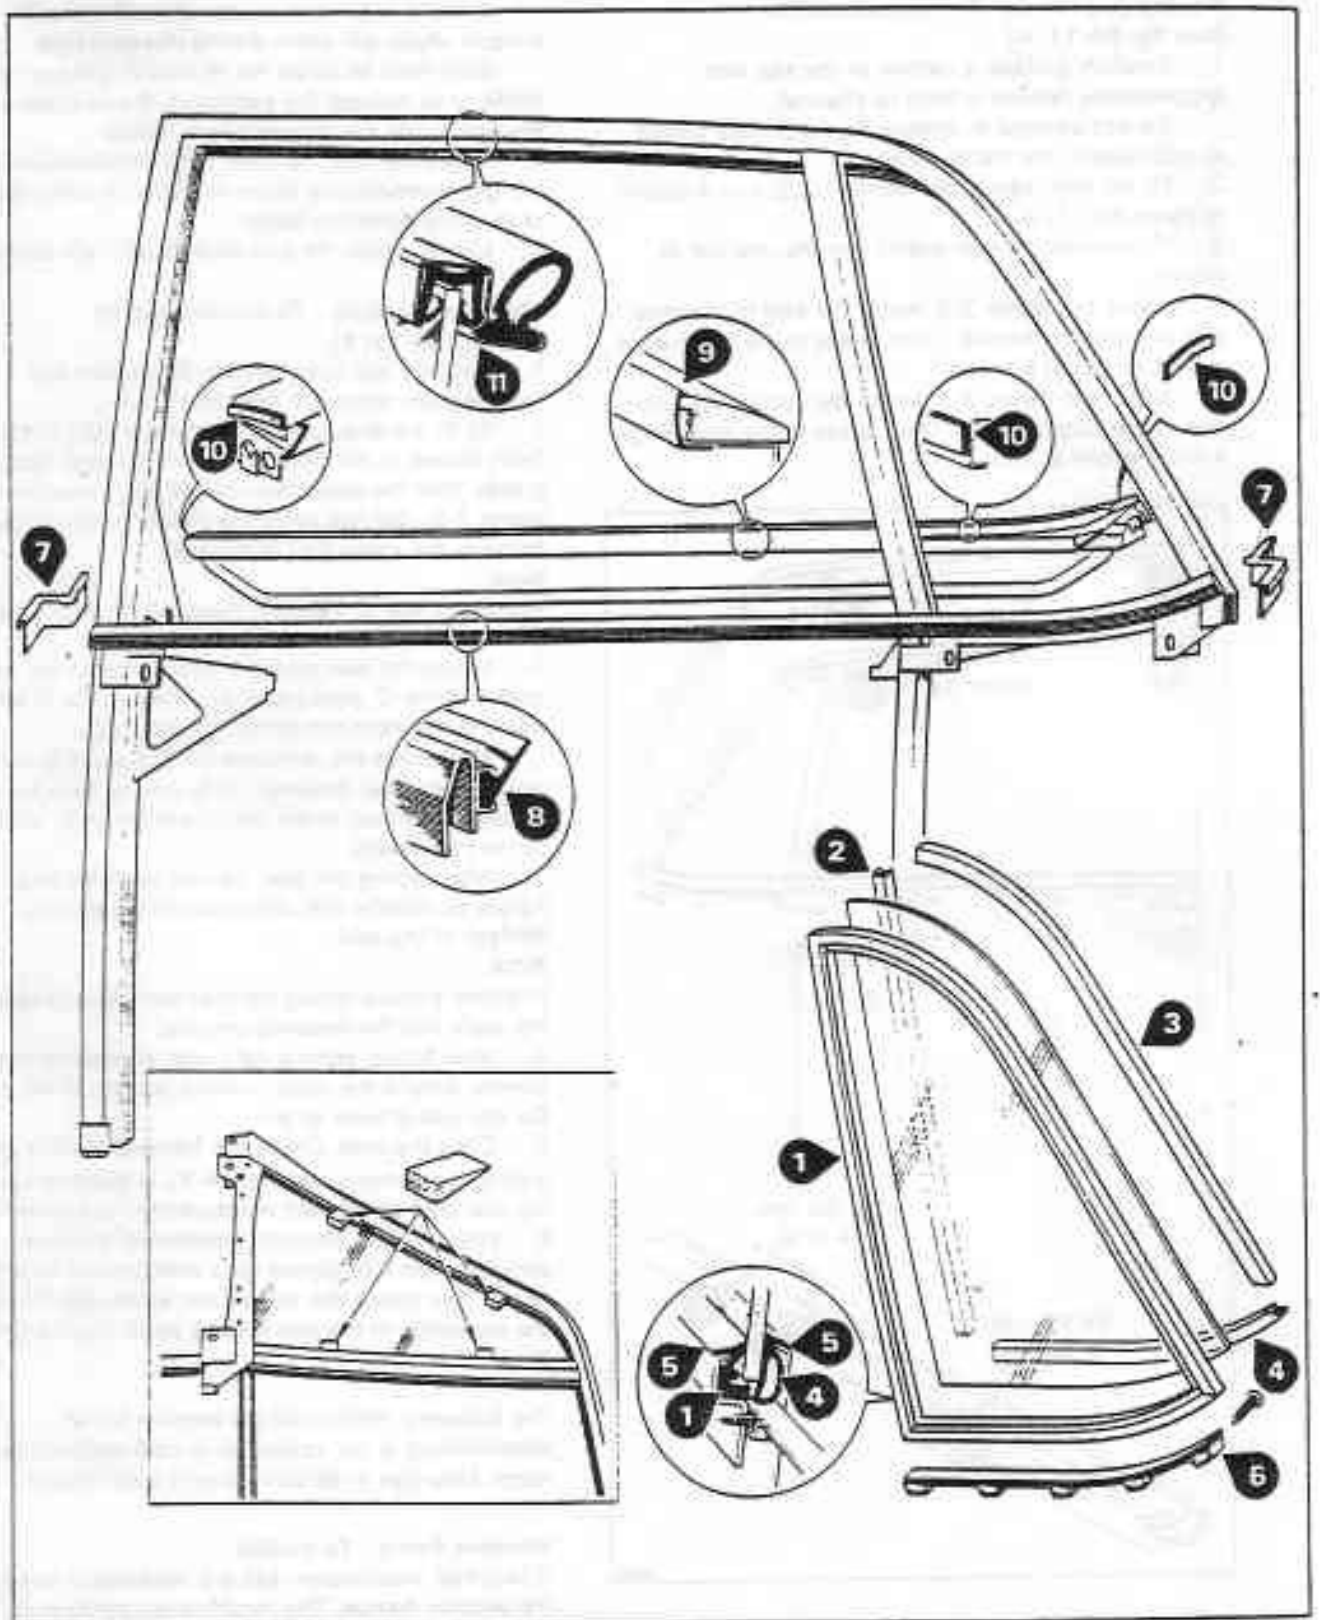

Fig. S4-9 Quarter window and door seals
9. If necessary, remove the window channel seal, fence moulding seal and the end seals between the door and frame (see fig. S4-9).
Quarter window glass and seals - To remove (see fig. S4-9)
Quarter window glass and seals - To fit (see fig. S4-9)
2. Fit the moulded outer seal (see fig. S4-9, item 1) into the door frame with the outer lip of the seal sitting on the flange of the frame channel. Work the seal carefully into each corner.
Check that the outer seal has not been disturbed, then fit wedges to hold the glass in the correct position (see fig. S4-9, inset).
Ensure that the lip of each seal fits over the channel (see fig. S4-9, item 5).
1. Clean the bonding surfaces of the end seals (see fig. S4-9, item 7) and door using Bostik Cleaner 6001; allow to dry.
3. Fit the outer waist seal into its retaining channel on the fence moulding (see fig. S4-9, item 8). Ensure that the seal is in contact with the vertical frame legs at each end.
Waist rail finisher seals - To renew (see fig. S4-9)